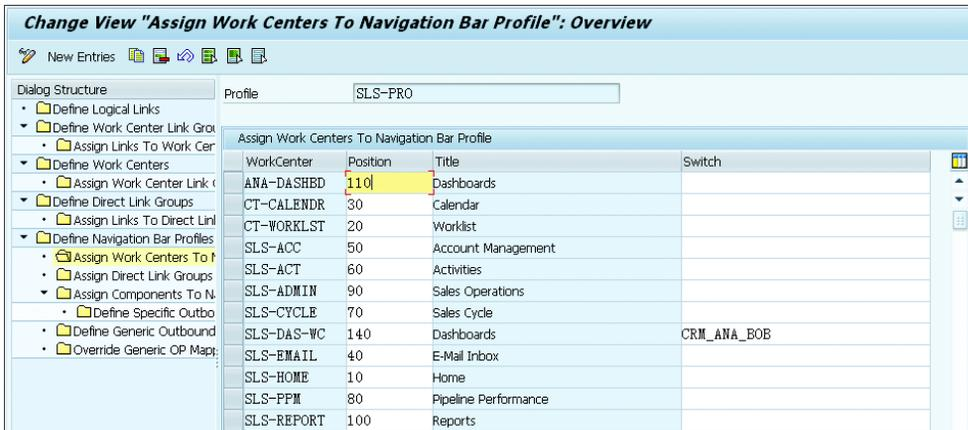

Figure 8.37 Assigning Work Centers to the Navigation Bar Profile
7. Assign the work center created in step 6 to the navigation bar profile (see Figure 8.37).